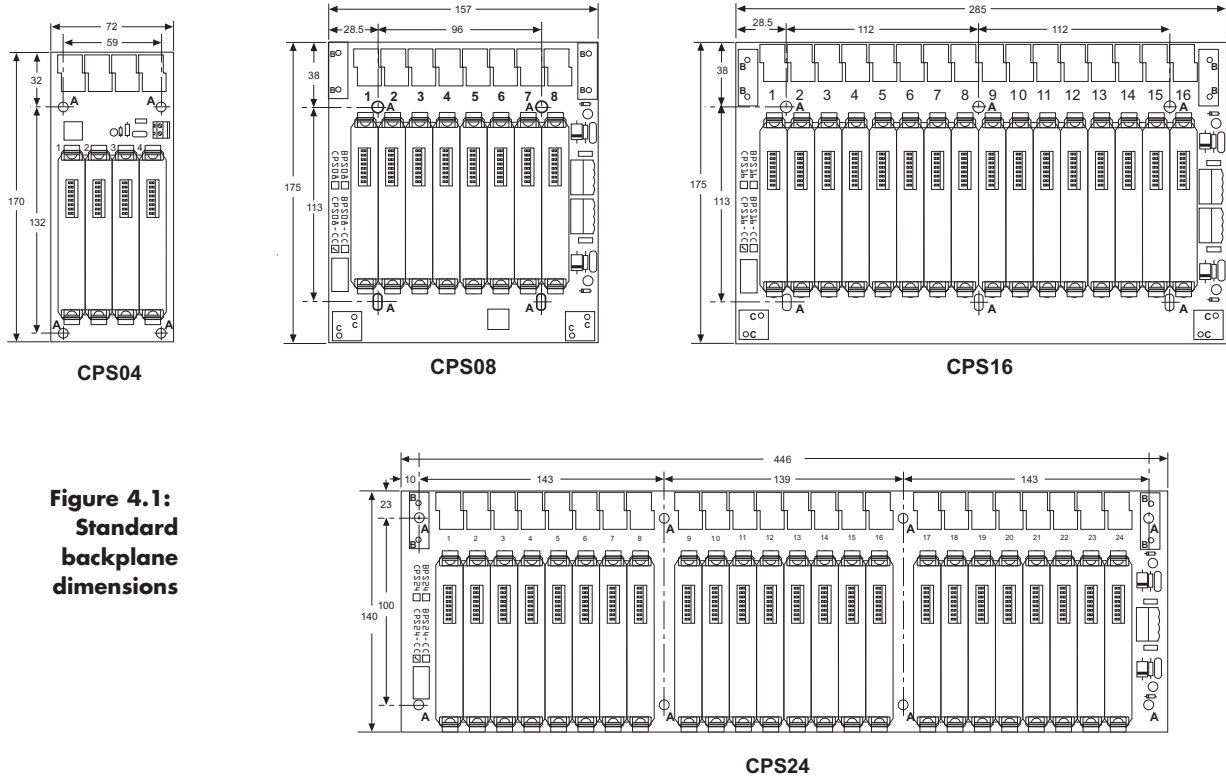

Figure 4.1: Standard backplane dimensions
See Table 4.1 for listings of the mounting methods and kits and accessories applicable to MTL standard backplanes and Figure 4.1 for dimensions and mounting centres.
Refer to Figures 4.1 and 4.2.
- a) Drill mounting surface at centres A (Figure 4.1) and tap, or fit retaining nuts if required.
See Figures 4.1 and 4.3.
- Insert the assemblies through the mounting holes A on the backplane (Figures 4.1 and 4.3).
See Figures 4.1, 4.6 and 4.7.
- Attach the tagging strip mounting posts (1) at backplane centres B (Figure 4.1) using two M3 x 12mm mounting screws (2) and washers (3) (Figure 4.6).
See Figures 4.1 and 4.8.
- Locate the earth rail mounting posts (1) at backplane centres C (Figures 4.1 and 4.8).
- Attach the mounting posts (1) with M3 x 12 screws (3) and washers (4).
- Slide the earth rail (5) through the slots in the of the mounting posts (1).
- Fit the earth terminal(s) (6) on the rail (5).
- Attach plastic retaining rivets (7) to each end of the earth rail (5).